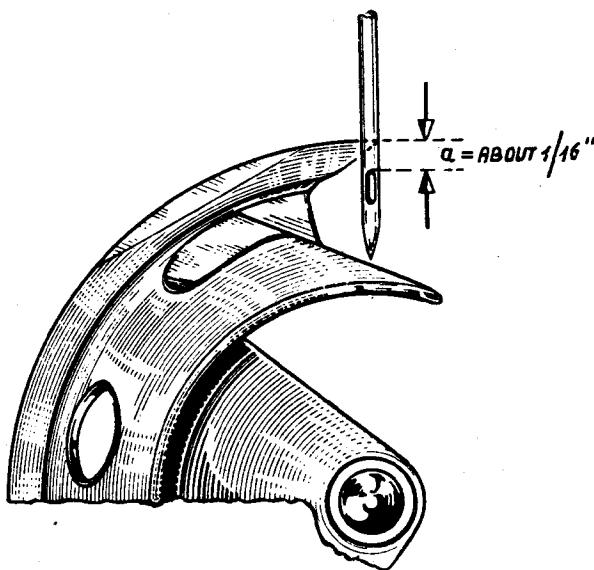
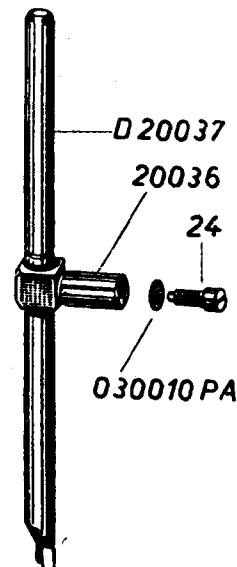
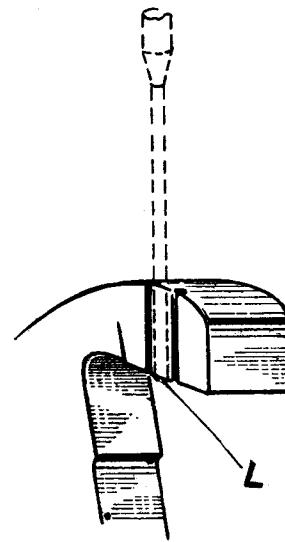

Fig. 16
Fig. 17
Fig. 19
At this moment the point of the shuttle should be about  $1/16''$  above the upper part of the needle eye (Fig. 16). If the distance  $a$  is more or less than  $1/16''$ , an adjustment is necessary. Loosen slightly the screw No. 24 (Fig. 17) in the needle bar connecting stud No. 20036 so that the needle bar No. D 20037 is still held in position by friction.
a. Bring the needle bar to its lowest position. In this position, the lower end of the false needle should be just in line with the lower edge « L » of the prong of this gauge, as shown in Figs. 19 and 20. If an adjustment of the height of the needle bar is necessary, loosen slightly screw No. 24 (Fig. 17) so that the needle bar is still held in position by friction. Then, without turning the balance wheel, move the needle bar up or down by hand until the condition shown in Figs. 19 and 20 is met. Tighten screw No. 24 firmly.